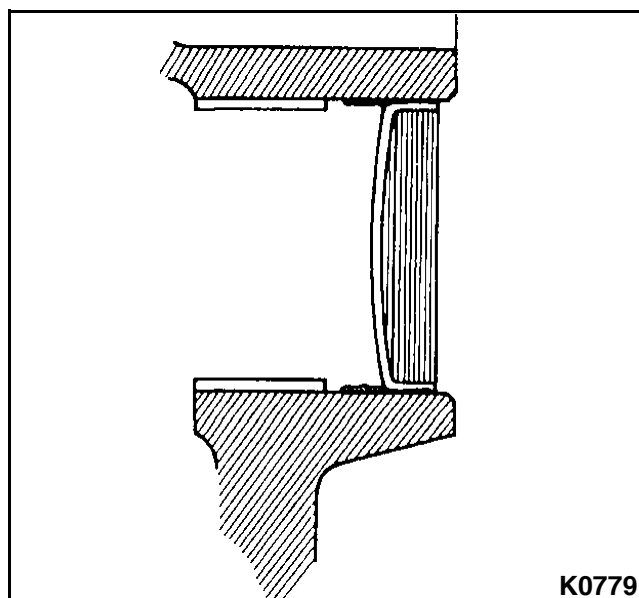

Figure 3-177
4. Use a hammer to drive in the tight plug until it is flush with the cylinder block end surface. **See Figure 3-177.**